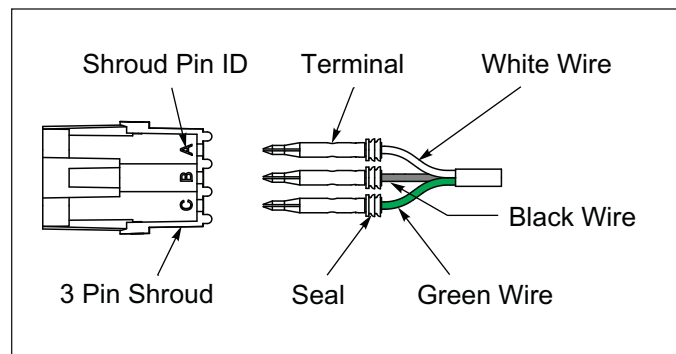
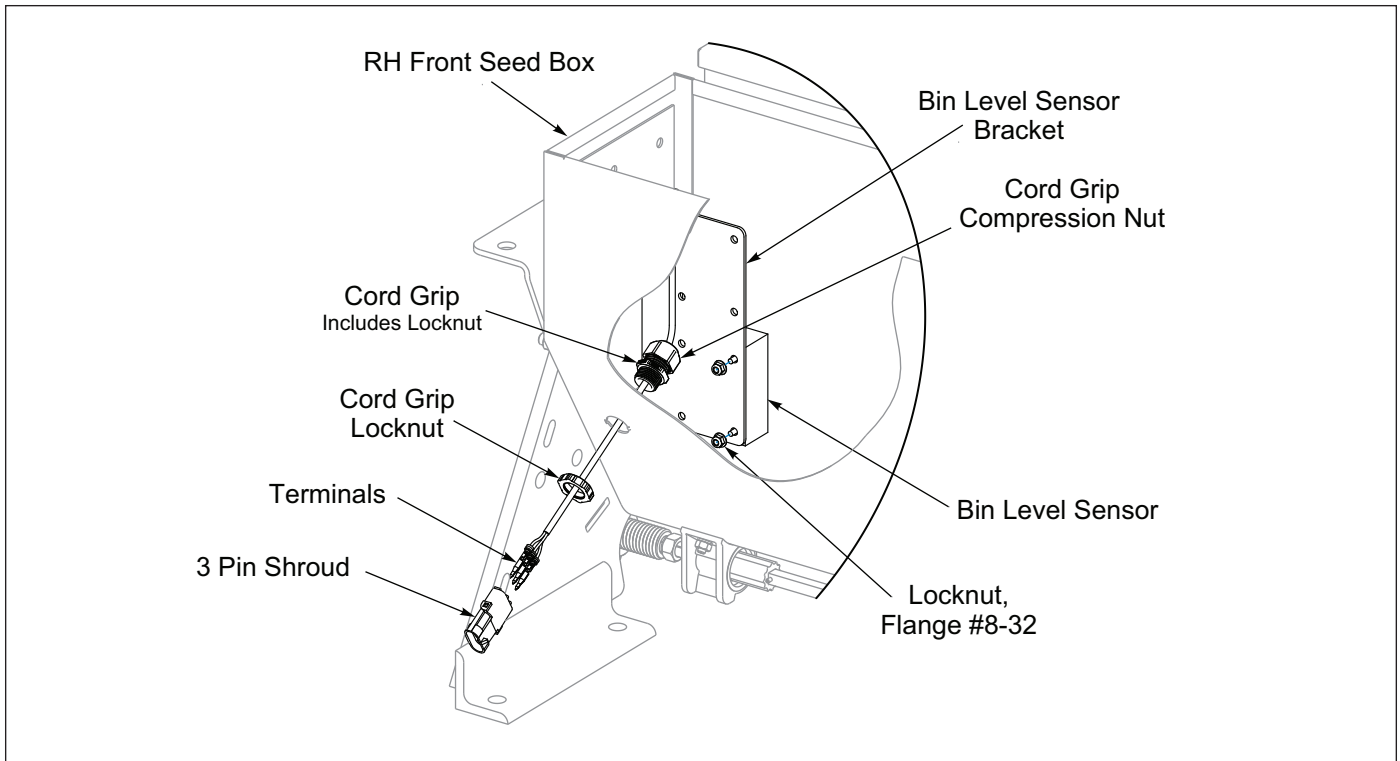

Figure 2-2: Bin Level Sensor Bracket Wire Detail
Figure 2-11: Brillion Elite Mini Monitor - Small Seed Box Front Box Bin Level Sensor
7. Each Seeder Section has a Bin Level Sensor Bracket on the inside at either end. Determine the desired level for the alarm to be indicated on the Brillion Elite Mini Monitor and assemble the Bin Level Sensors to Bin Level Sensor Brackets with sensor provided hardware and #8-32 Flange Locknuts. **See Figures 2-11, 2-12, and 2-13.** If more adjustment is needed, the Bin Level Sensor Brackets can also be raised or lowered to the desired seed level. To get the Sensor Connector outside the Seed Box, feed the terminals through the Cord Grip. Install the terminals into the 3-Pin Shroud labeled "A", "B" and "C" as follows "A" White, "B" Black, "C" Green. **See Figure 2-2.** Inside the Seed Box, add enough slack to the Bin Level Sensor Cord to allow for future adjustment of the sensor. Secure Bin Level Sensor Cord by tightening the Cord Grip Compression Nut. Connect both Bin Level Sensors to each Seeder Harness.